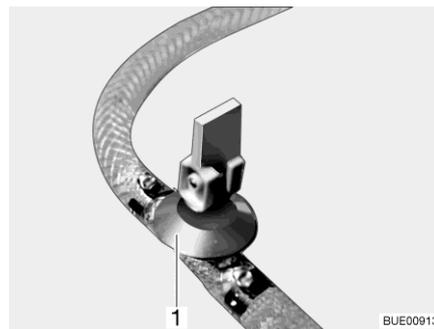

Fig. 145 Drain cock
- Close the drain cock(s). Position the rocking lever (Fig. 145,1) horizontally.
- Open drain cock(s) (Fig. 145). To do so, set the rocking lever (Fig. 145,1) in a vertical position. The boiler is drained to the outside.